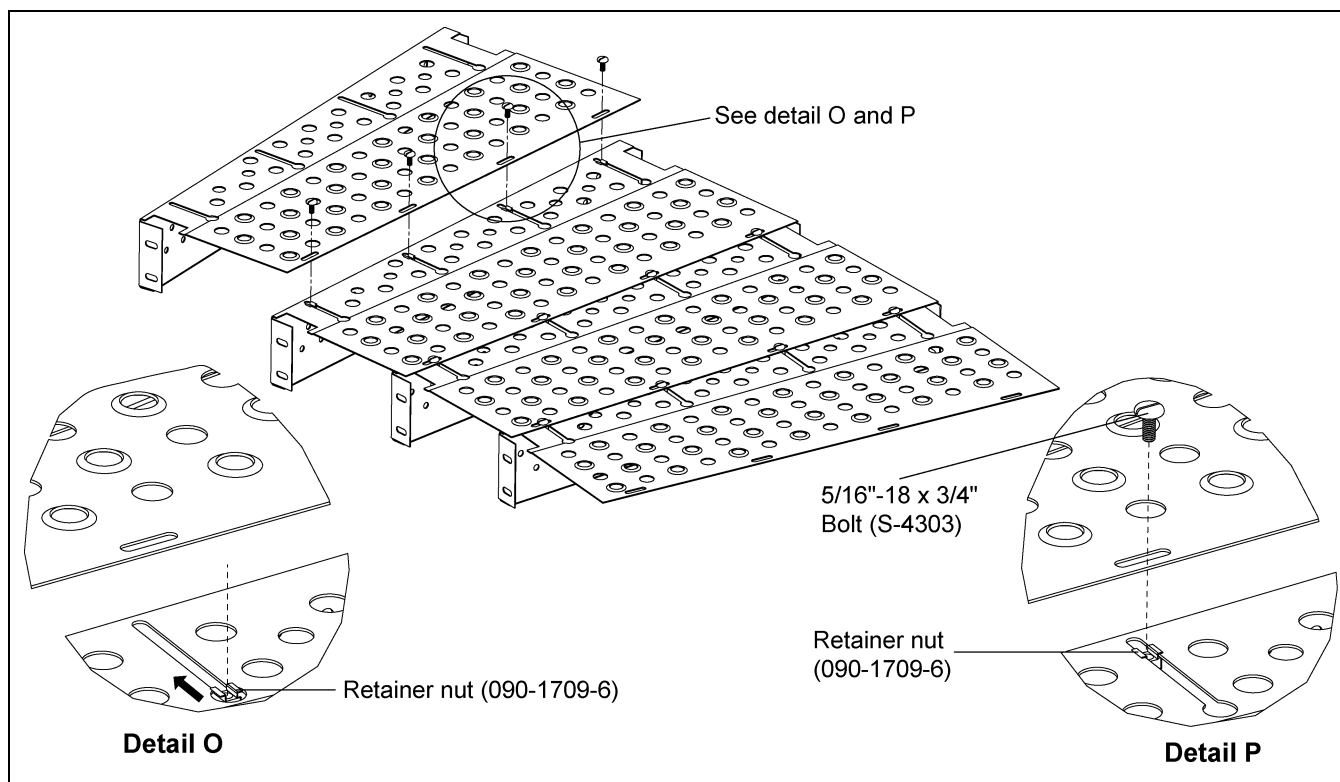

Figure 4AA
2. Place the following plank over the installed plank and bolt to the retainer nut (090-1709-6) using 5/16"-18 x 3/4" bolt (S-4303) as shown in the detail P of Figure 4AA.